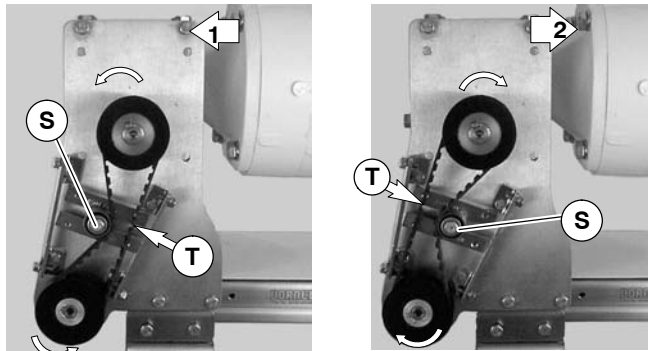

Figure 23
- Depending on direction of conveyor belt travel (1 or 2 of Figure 23), position belt tensioner (S) as shown. Tension belt to obtain 1/8" (3 mm) deflection for 1.0 lb (456 grams) of force at belt mid-point (T). Tighten tensioner screw to 103 in-lb (12 Nm).